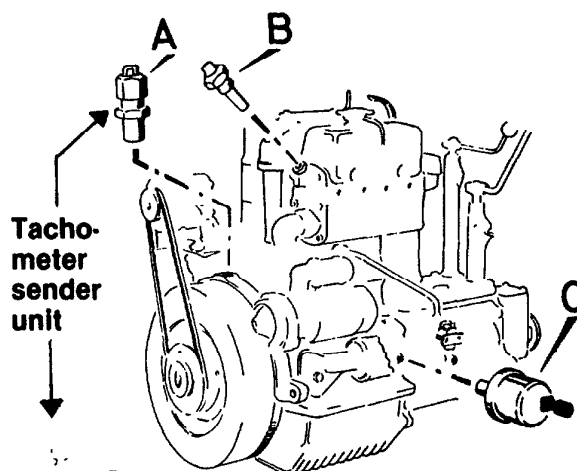
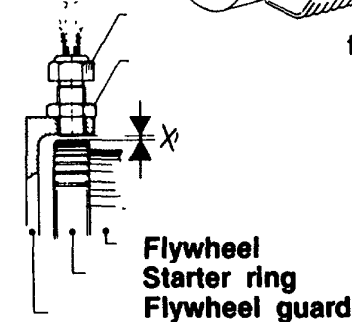

fig 16
Fig 16a
1. Screw tachometer sender unit (A), fig 16, into the flywheel shield of main bearing housing (fig 16a) against the flywheel starter ring.